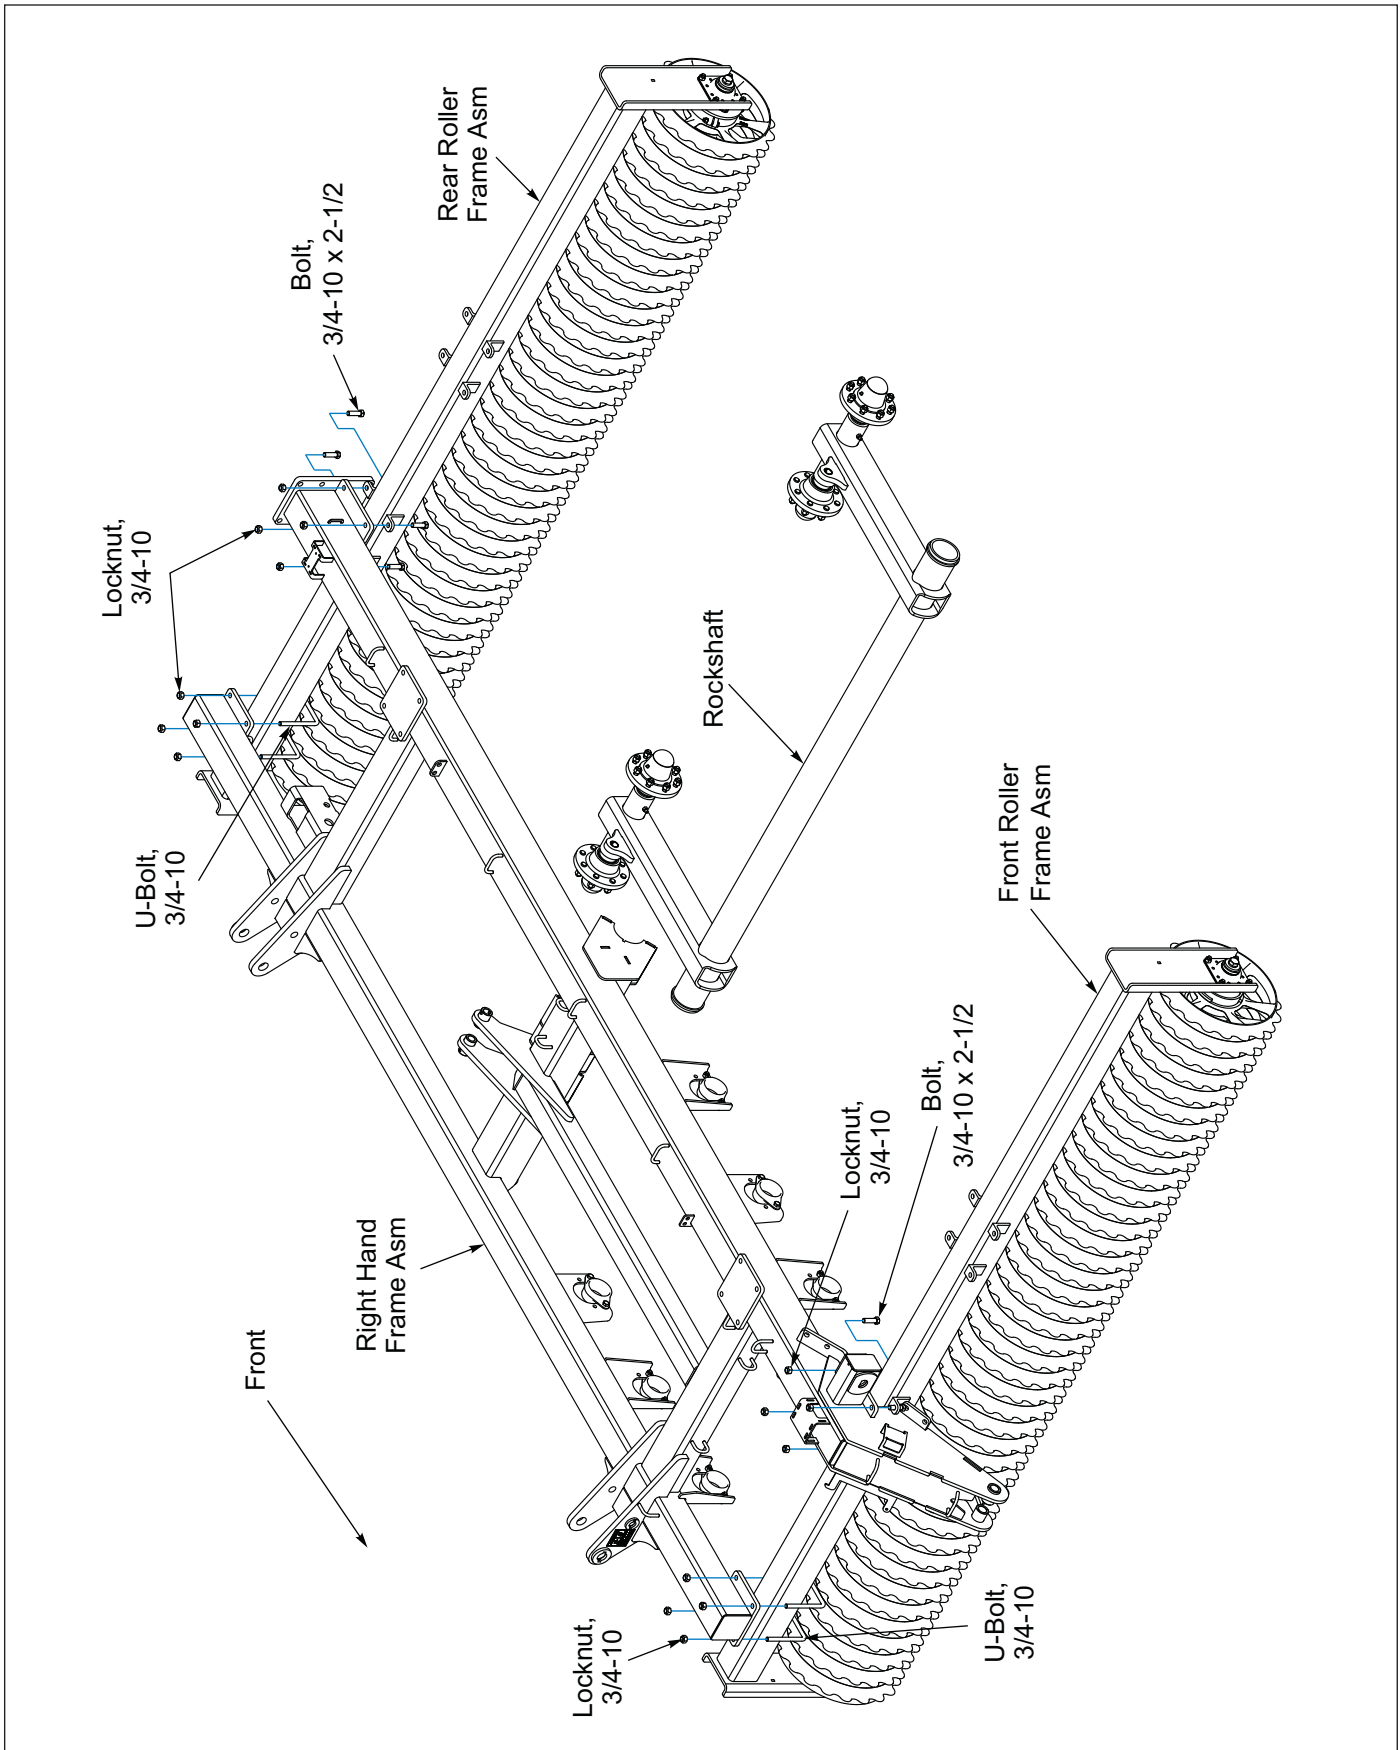

Figure 2-3: Right Hand Center Frame
1. Position the Rockshaft on a level surface under the designated frame assembly area. This will aid in ease of assembly. **See Figure 2-3.**